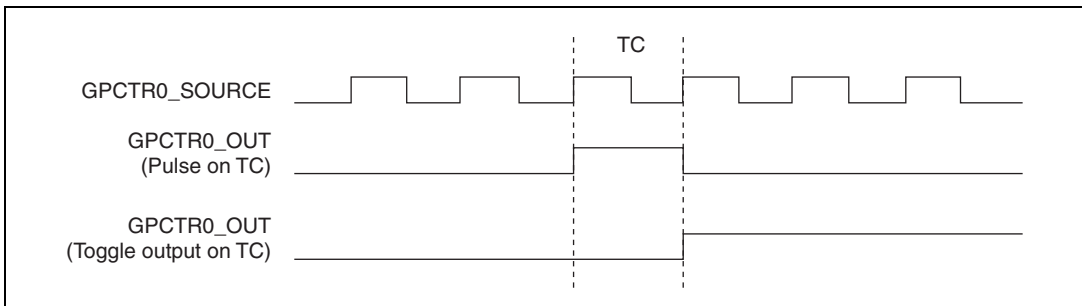

Figure 4-32. GPCTRO_OUT Signal Timing
This signal is available as an output on the GPCTRO_OUT pin. The GPCTRO_OUT signal reflects the terminal count (TC) of general-purpose counter 0. You have two software-selectable output options: pulse on TC and toggle output polarity on TC. The output polarity is software-selectable for both options. This output is set to high-impedance at startup. Figure 4-32 shows the timing of GPCTRO_OUT.